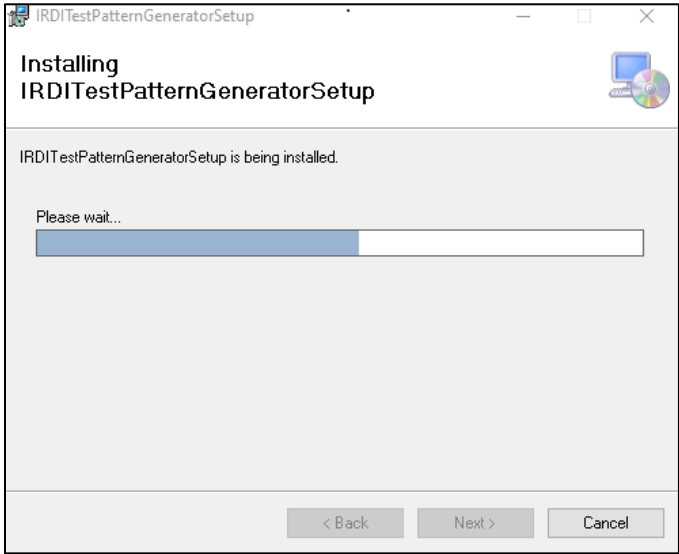

FIGURE 5-8 INSTALLING SOFTWARE
STEP 5	Wait for the software to install – see Figure 5-8.